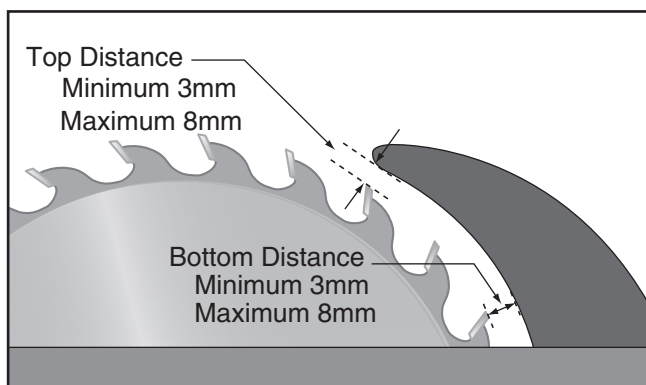

Figure 49. Allowable top and bottom distances between riving knife and blade.
The riving knife must be kept within the range shown in **Figure 49**. For that reason, we only recommend using a 10" blade for operations that require use of the riving knife.
10. Use a push stick to feed the workpiece through the saw blade, as shown in **Figure 49** until the workpiece is completely beyond the saw blade.